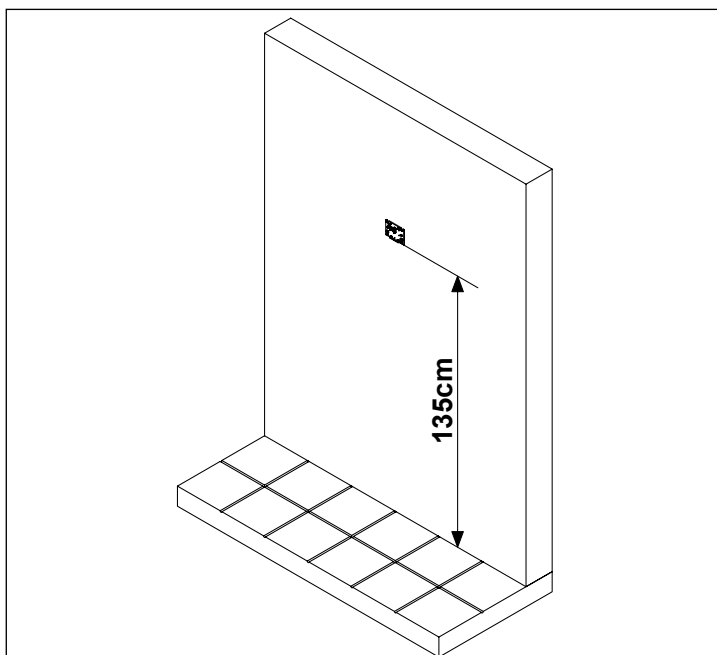

Fig. 1
1. Cables must be fed through the opening **E** (**Fig. 2**) of the mounting plate **C**, which should be fitted approximately 135cm from finished floor level as shown in **Fig. 1**;
PUSH BUTTONS, LEDS AND CONTROLS (FIG. 1)